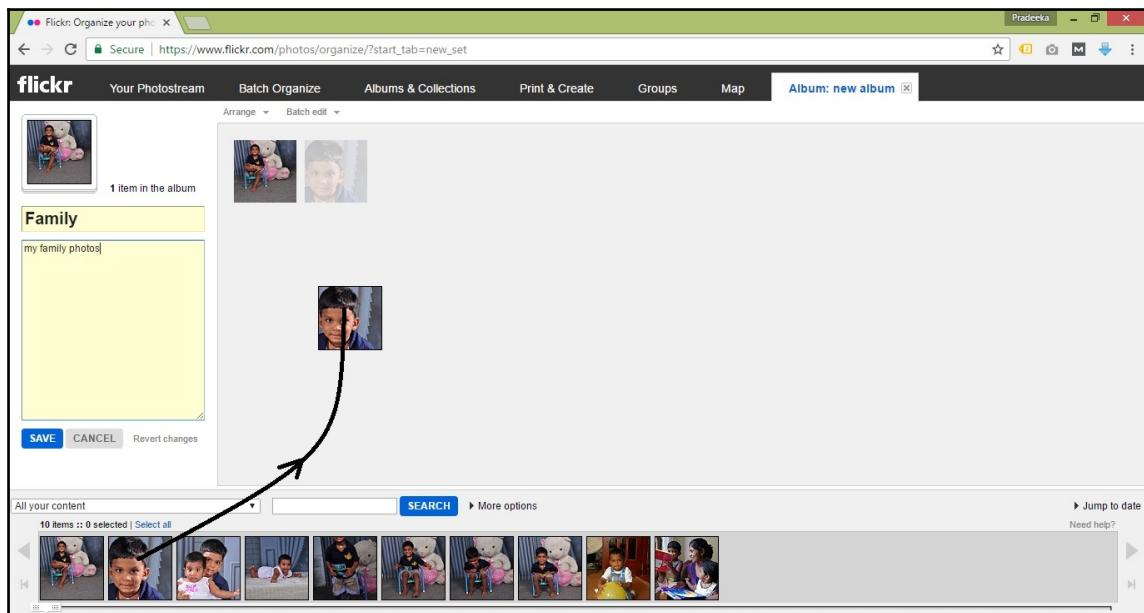

Figure 3-15: Dragging content into the album area
5. Drag content into the album area from the bottom. This area shows the contents in your photo stream (Figure 3-15):